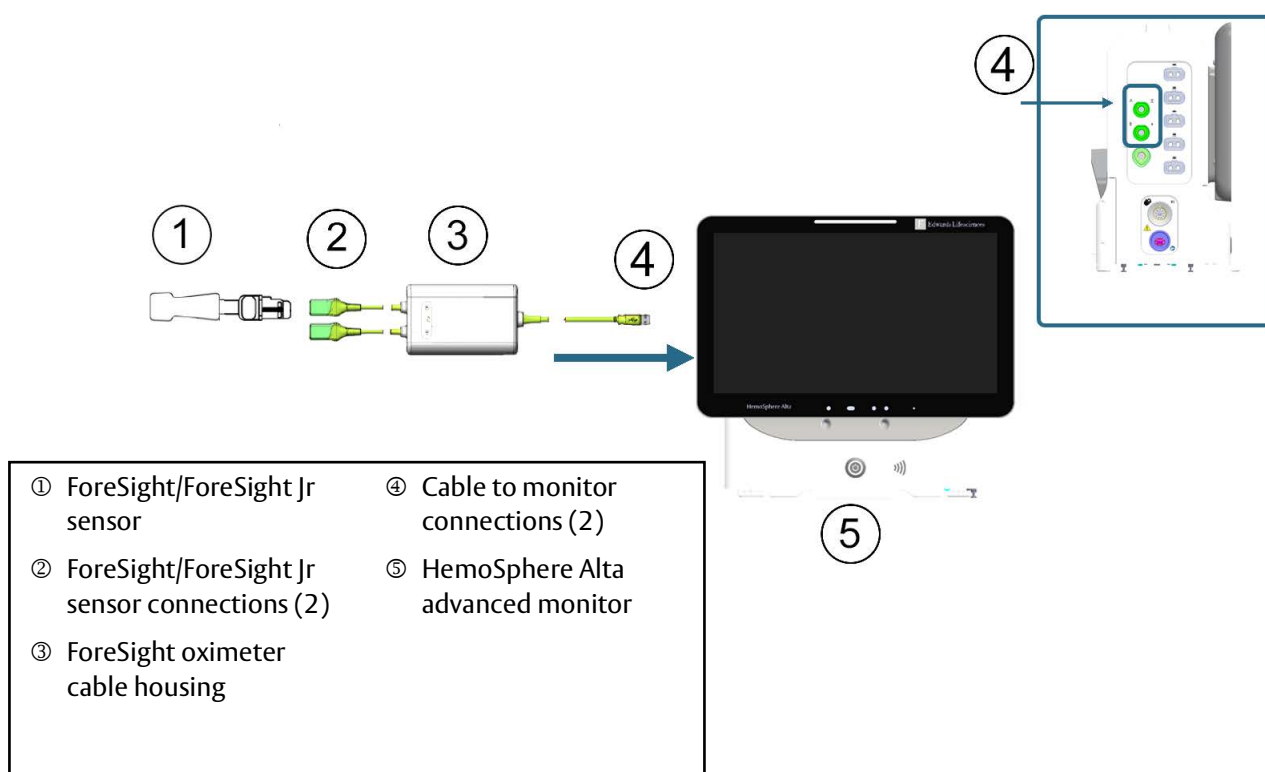

Figure 12-8 Tissue oximetry monitoring connection overview
- 2 Ensure proper orientation, then plug the ForeSight oximeter cable into the tissue oximetry port on the left panel of the monitor. See ④ in figure 12-8 on page 178. Up to two ForeSight oximeter cables can be connected to each port.